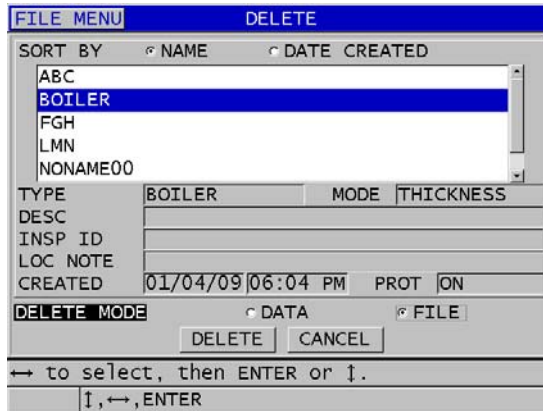

Figure 11-20 Deleting a file
3. In the **DELETE** screen (see Figure 11-20 on page 189):